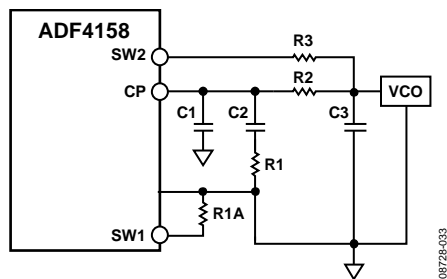

Figure 44. Fast-Lock Loop Filter Topology—Topology 2
- Connect an extra resistor (R1A) directly from SW1, as shown in Figure 44. The extra resistor must be chosen such that the parallel combination of an extra resistor and the damping resistor (R1) is reduced to $1/4$ of the original value of R1.